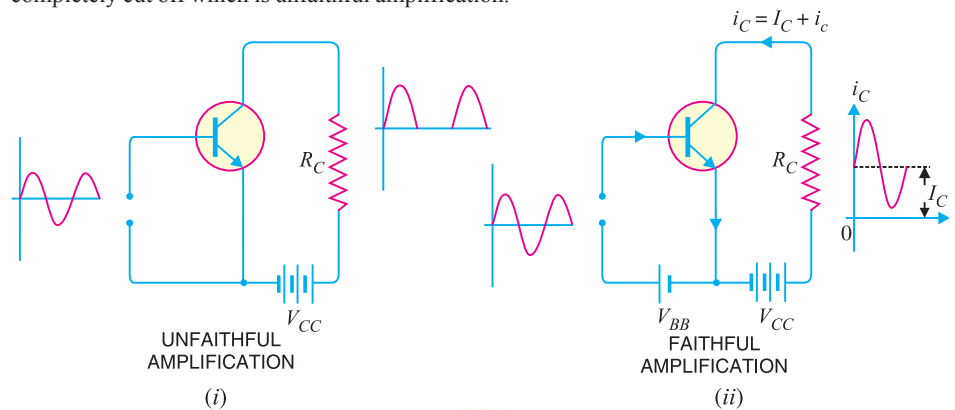

Fig. 9.1
**(i) Proper zero signal collector current.** Consider an *npn* transistor circuit shown in Fig. 9.1 (i). During the positive half-cycle of the signal, base is positive w.r.t. emitter and hence base-emitter junction is forward biased. This will cause a base current and much larger collector current to flow in the circuit. The result is that positive half-cycle of the signal is amplified in the collector as shown. However, during the negative half-cycle of the signal, base-emitter junction is reverse biased and hence no current flows in the circuit. The result is that there is no output due to the negative half-cycle of the signal. Thus we shall get an amplified output of the signal with its negative half-cycles completely cut off which is unfaithful amplification.
Now, introduce a battery source  $V_{BB}$  in the base circuit as shown in Fig. 9.1 (ii). The magnitude of this voltage should be such that it keeps the input circuit forward biased even during the peak of negative half-cycle of the signal. When no signal is applied, a d.c. current  $I_C$  will flow in the collector circuit due to  $V_{BB}$  as shown. This is known as **zero signal collector current**  $I_C$ . During the positive half-cycle of the signal, input circuit is more forward biased and hence collector current increases. However, during the negative half-cycle of the signal, the input circuit is less forward biased and collector current decreases. In this way, negative half-cycle of the signal also appears in the output and hence faithful amplification results. It follows, therefore, that for faithful amplification, proper zero signal collector current must flow. *The value of zero signal collector current should be atleast equal to the maximum collector current due to signal alone i.e.*